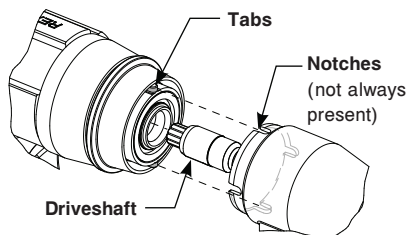

Figure 1 To Install Attachment
2. To install an attachment, align the driveshaft of the attachment with the handpiece spindle. If the attachment has notches, also align the notches with the tabs in the sleeve of the handpiece (see figure 1).